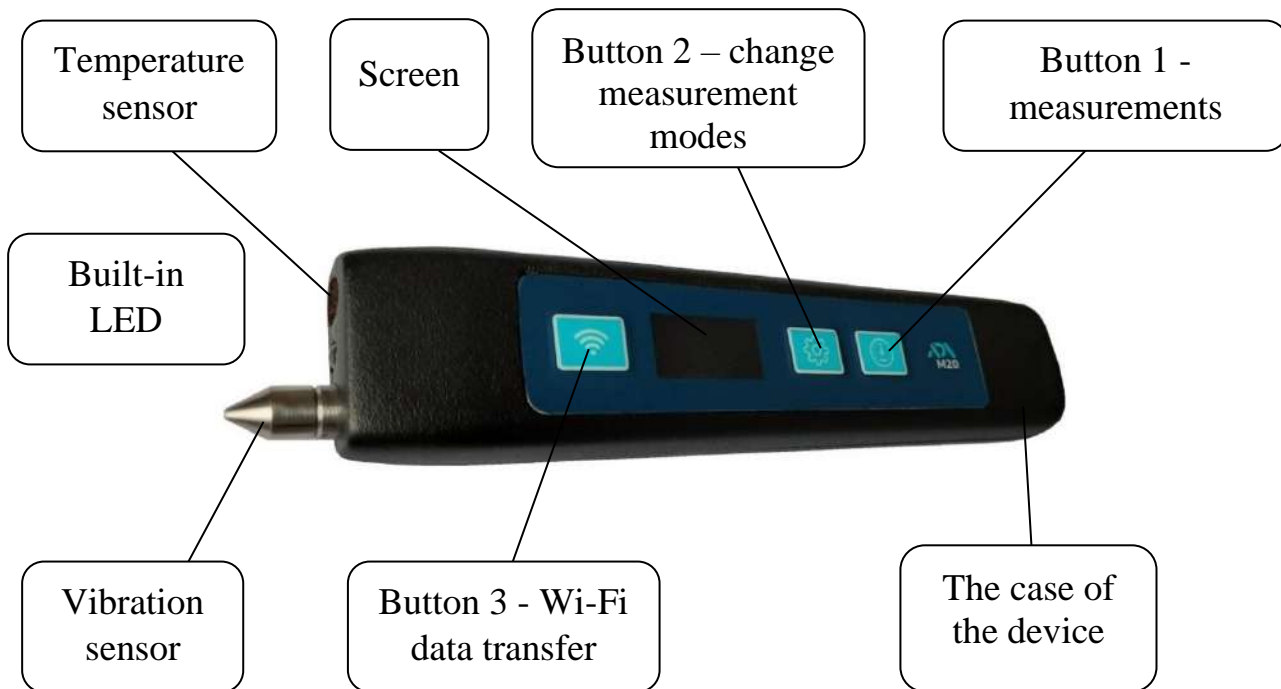

Figure 1.1 - General view of the device
1.3.1 The general view of the device is shown in Figure 1.1.
To work with the device, press the vibration sensor to the surface under test and press button 1 (Fig. 1.1). The vibration and thermal condition of the surface under test will appear on the screen of the instrument. Button 2 (Fig. 1.1) you can switch the measurement modes.
Keep the device perpendicular to the surface under test. Start measuring at the touch of a button. Temperature and vibration are measured simultaneously after pressing button 1 (Fig. 1.1).
1. To turn on the vibrometer in the configuration mode, press button 2 and without releasing it, press button 1 (Fig. 1.1).